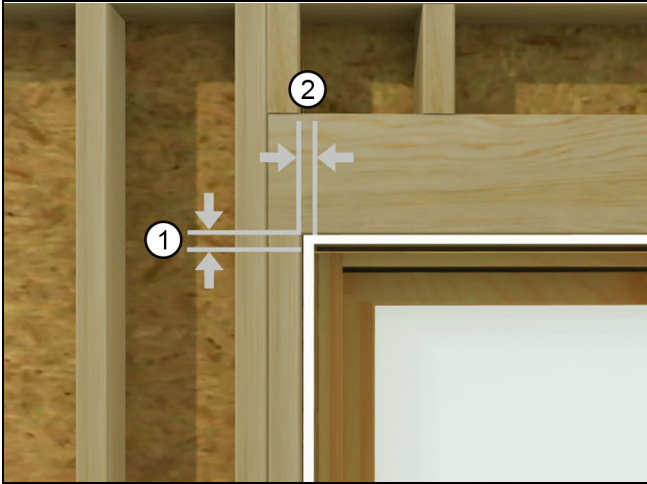

Figure 2
1. Rough openings (RO) should be $1/2"$ (13) higher and $1"$ (25) wider than the outside measurement of the frame ($1/2"$ on each side of the frame). See Figure 2.